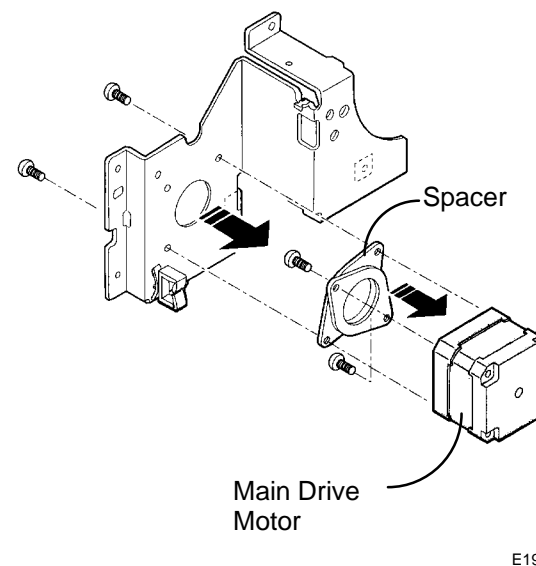

Figure 3. Removing the Main Drive Motor
6. (Figure 3): Remove the Main Drive Motor and Motor Spacers.